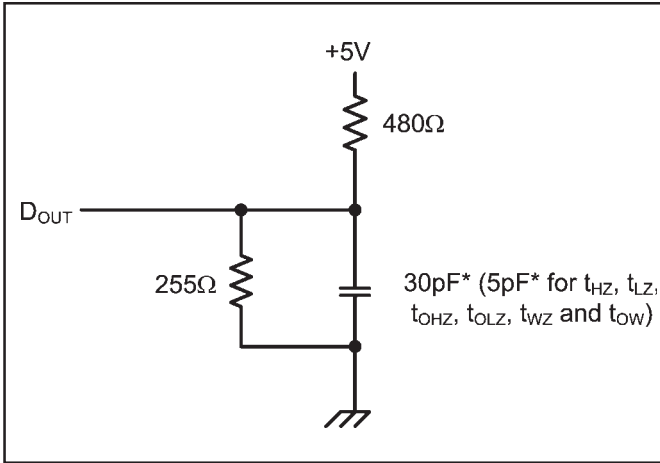

Figure 1. Output Load
8. Transition is measured  $\pm 200$  mV from steady state voltage prior to change, with loading as specified in Figure 1. This parameter is sampled and not 100% tested.
| Output Load                   | See Figures 1 and 2 |